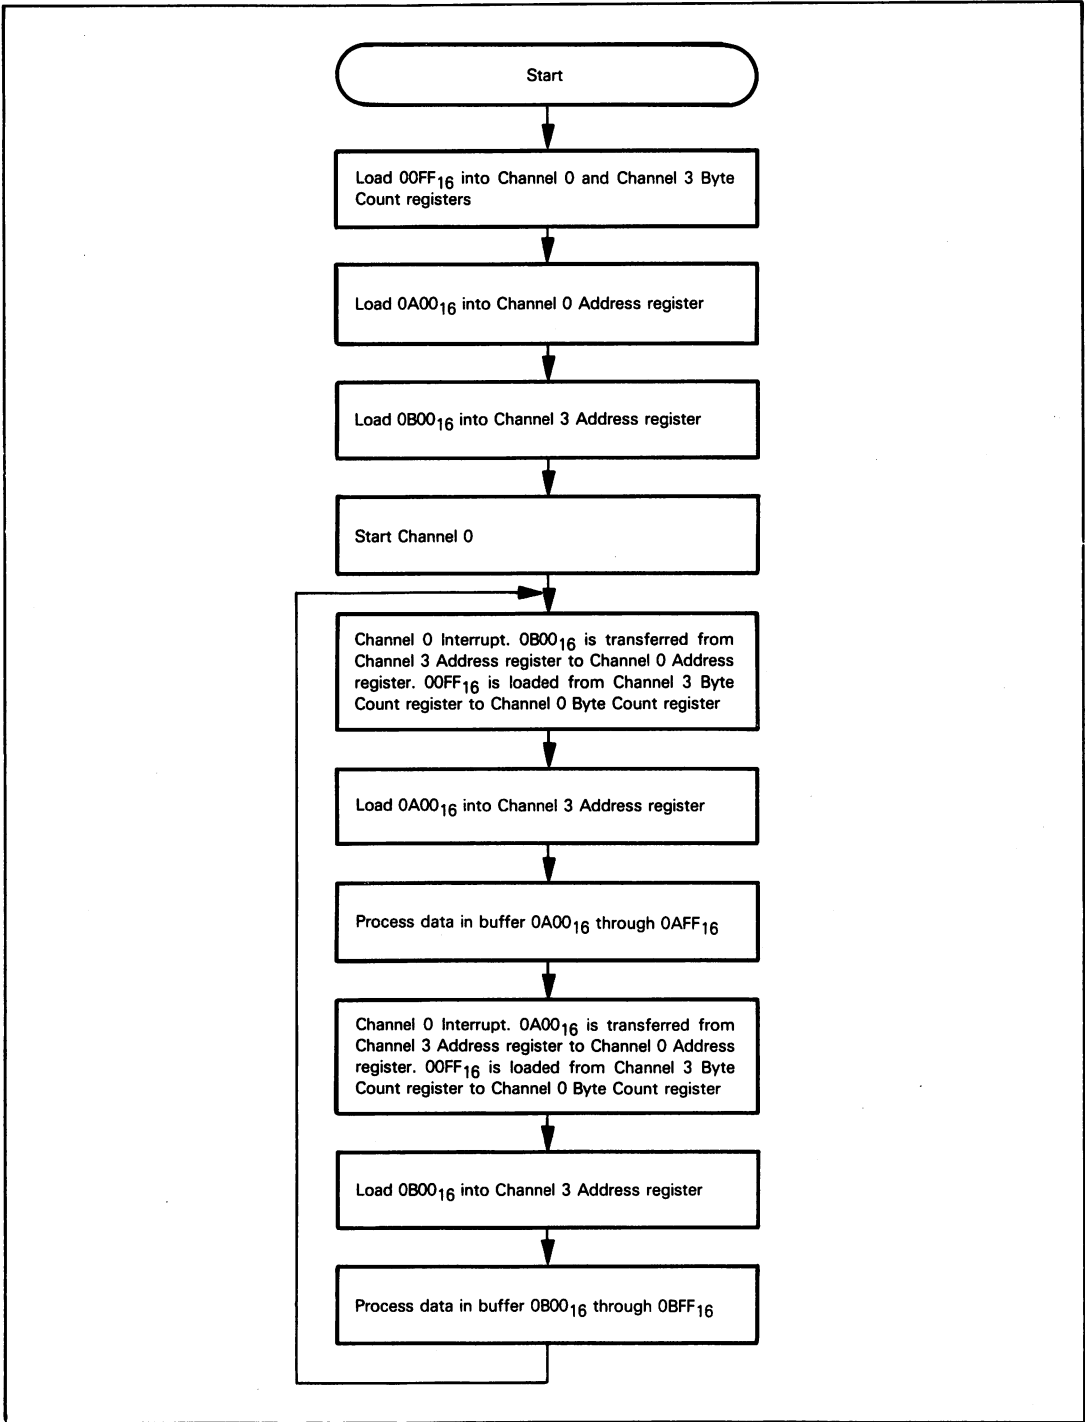

Figure 9-37. Logic for MC6844 DMAC with Channel 3 Chained to Channel 0 and Data Flowing into Alternate Memory Buffers
A better way would be to have two buffers: for example, the first from 0A0016 through 0AFF16 and the second from 0B0016 through 0BFF16. Now, following each end of block interrupt, you would write the new address into the Channel 3 Address register. This is illustrated in Figure 9-37.
**There are some nonobvious aspects of Figure 9-37.**